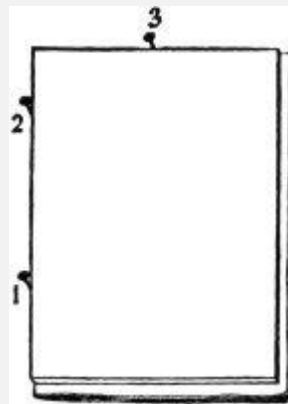
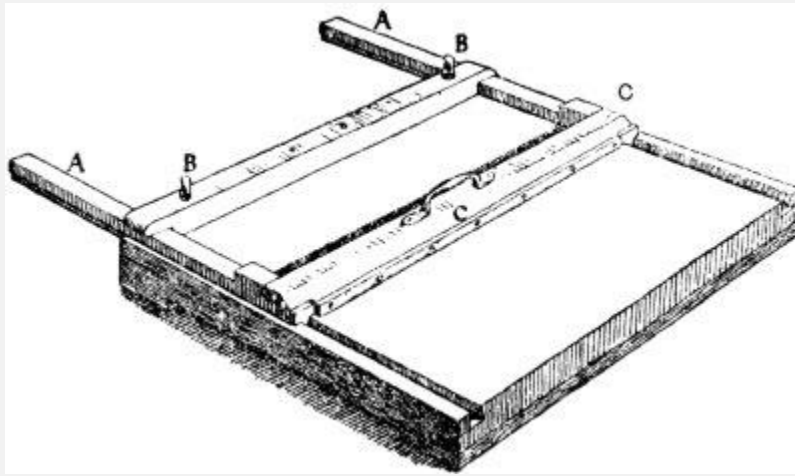

Fig. 23.
Fig. 24.
may be cut to the size, it is desired to leave the leaves, and the sections trimmed to it. To do this three nails should be put into the covering board through a piece of straw-board, and the back of the section slid along nails 1 and 2 until it touches No. 3 (see fig. 23). The board is slid in the same way, and anything projecting beyond it cut off. When the under straw-board has become inconveniently scored in the first position, by shifting the lower nail (1) a fresh surface will receive the cuts. Fig. 24 is a representation of a simple machine that I use in my workshop for trimming. The slides A A are adjustable to any width required, and are fixed by the screws B B.[94] The brass-bound straight edge C fits on to slots in A A, and as this, by the adjustment of the slides, can be fixed at any distance from B B, all sizes of books can be trimmed. As by this machine several sections can be cut at once, the time taken is not very much greater than if the book were cut in the plough.